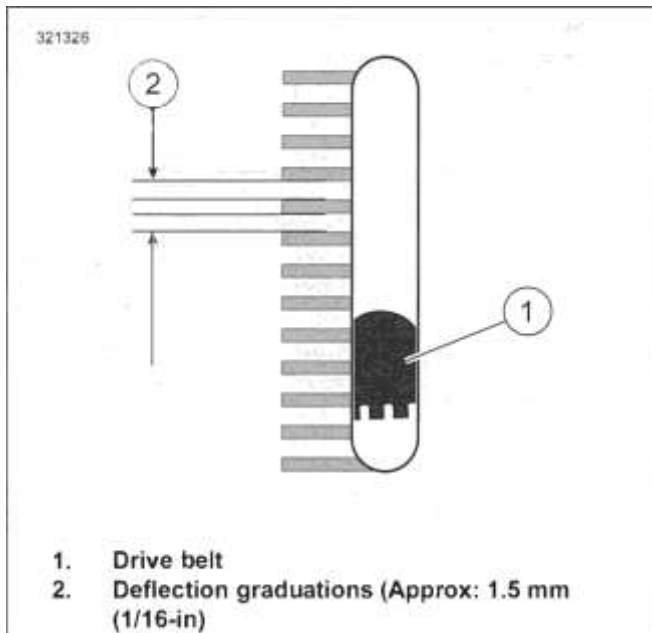

Figure 2-35. Belt Deflection Window
- a. **Models equipped with belt deflection window:** See Figure 2-35. Measure belt deflection as viewed through belt deflection viewing window while holding gauge steady. Each deflection graduation is approximately 1/16 in (1.6 mm).